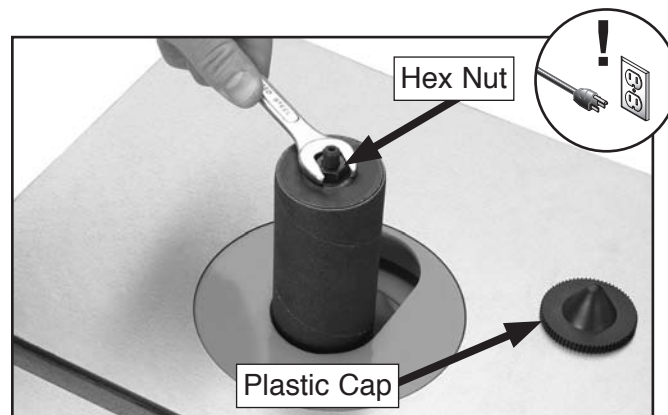

Figure 30. Loosening nut.
3. Remove the plastic cap from the sanding drum. It has left-hand threads and unscrews clockwise (**Figure 30**).